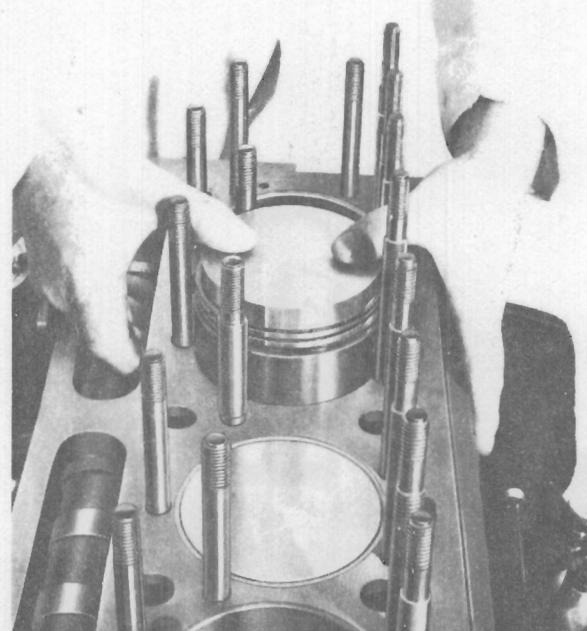

Fig. F.3.
7. Push the piston down into its bore through the assembly ring. (See Fig. F.3).